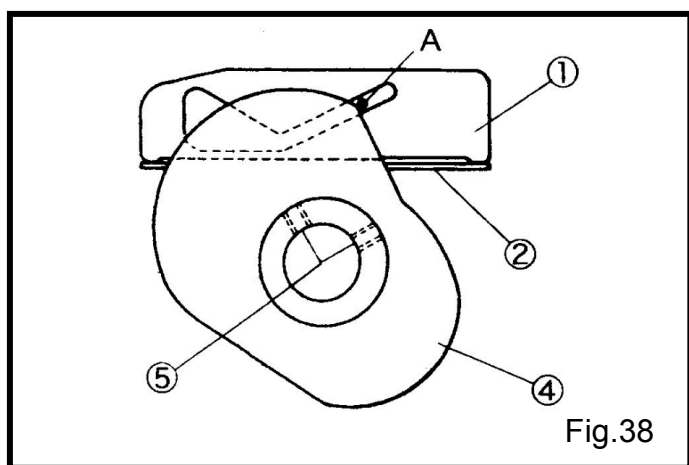

Fig.38
底線導板①和支撐②要成一直線。(Fig.38)
(Fig.38,39)
Align the right of the looper thread take-up guide① with that of the eyelet supporting plate②.(Fig.38)
Position the looper thread take-up④ as standard so that looper thread passes at the point A when the needle bar③ is lowered 2.8 mm from the highest point. Loosen the screws⑤ to adjust it.(Fig.38,39)